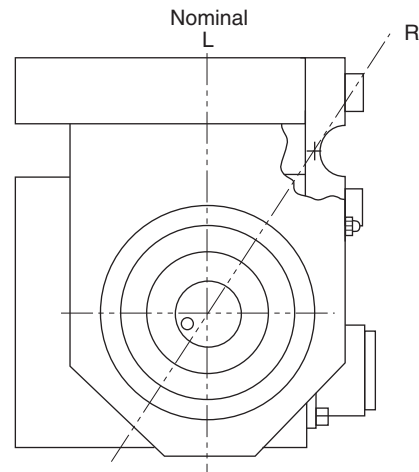

Figure 5
The total resultant load per cell (RF) is calculated by resolving all force vectors acting upon the Tensioncell, with respect to the Loading Line (OL). (RF) is the resultant of both TENSION and TARE loads, PER CELL!! (See Figure 5)